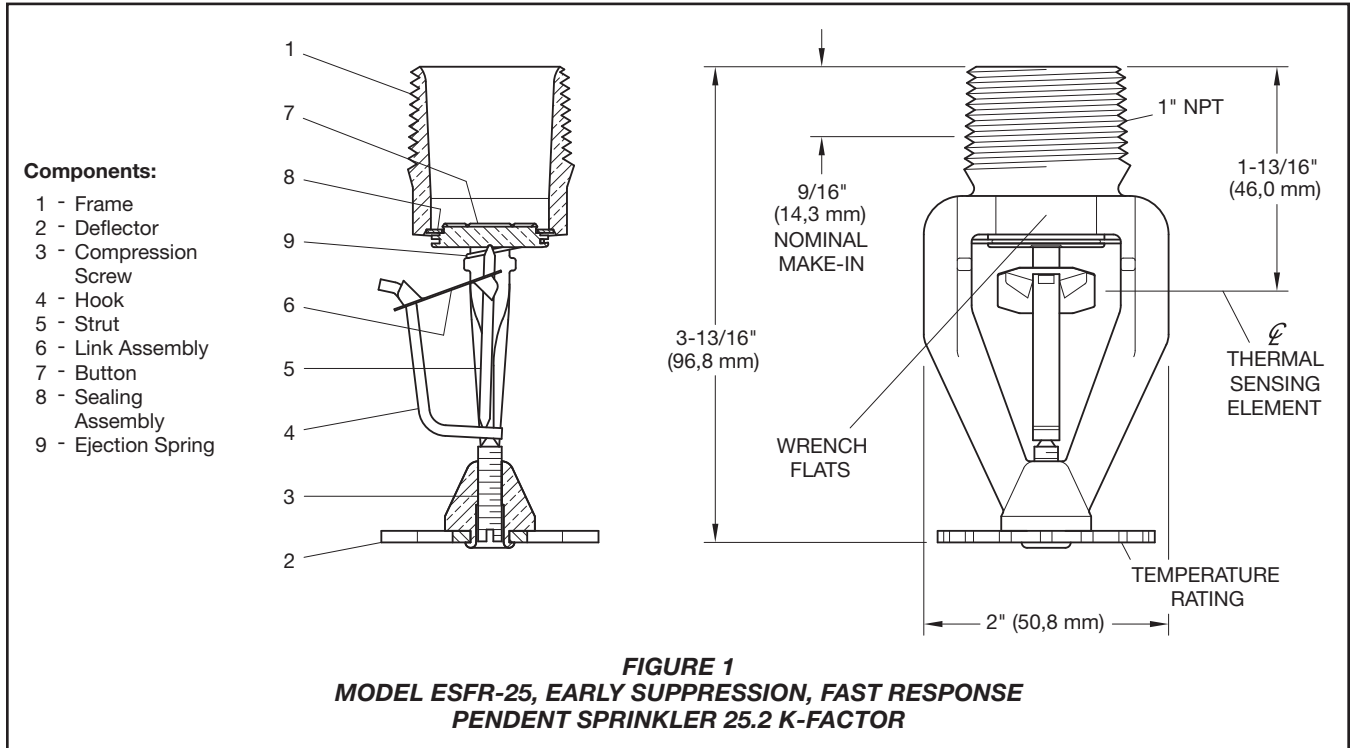

FIGURE 1
The TYCO Model ESFR-25 Pendent Sprinklers are “Early Suppression, Fast Response Sprinklers” having a nominal K-Factor of 25.2. (Refer to Figure 1.) They are suppression-mode sprinklers that are especially advantageous as a means of eliminating the use of in-rack sprinklers when protecting high-piled storage.
3. Wrench-tighten the Model ESFR-25 Sprinkler using only the W-Type 1 Sprinkler Wrench (Figure 2) and by fully engaging (seating) the wrench on the sprinkler wrench flats (Figure 1).
4. After installation, inspect the Link Assembly of each Model ESFR-25 Sprinkler for damage. In particular, verify that the Link Assembly and Hook are positioned as illustrated in Figure 1, and that the Link Assembly is not bent, creased, or forced out of normal position in any way. Replace damaged sprinklers.